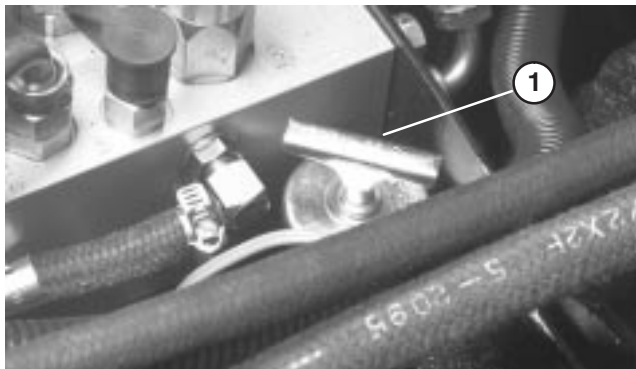

Figure 29
16. Clean area around dipstick cap (Fig. 29) and remove cap from axle filler tube.